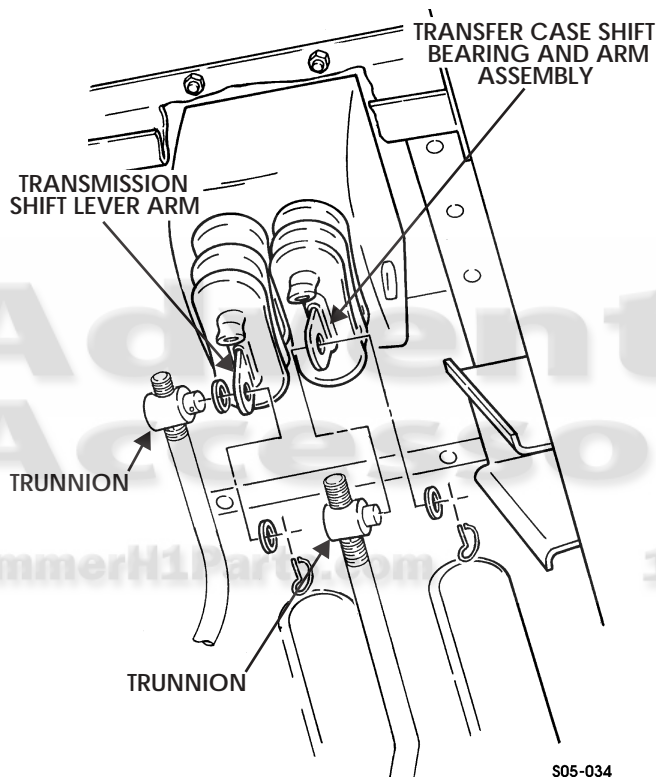

Figure 5-89: Shift Trunnions
2. Remove cotter pin, washer, and trunnion from transmission shift lever arm. Discard cotter pin (Figure 5-89).
7. Install transfer case shift rod trunnion on transfer case shift bearing and arm assembly with washer and cotter pin (Figure 5-89).